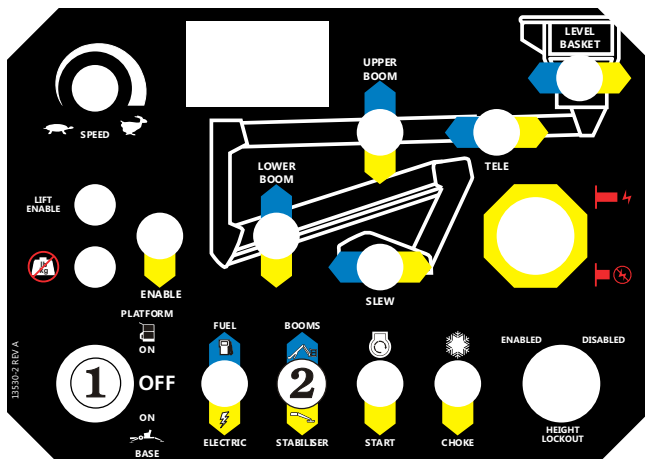

Figure 8.8
1. Insert the key ① into the **Platform / Ground Selector Switch** at the ground control box and select platform (see Figure 8.8).